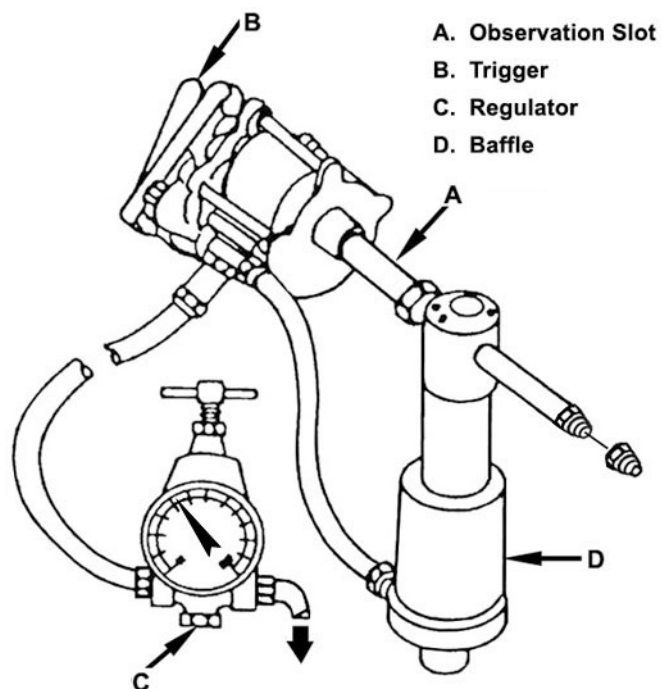
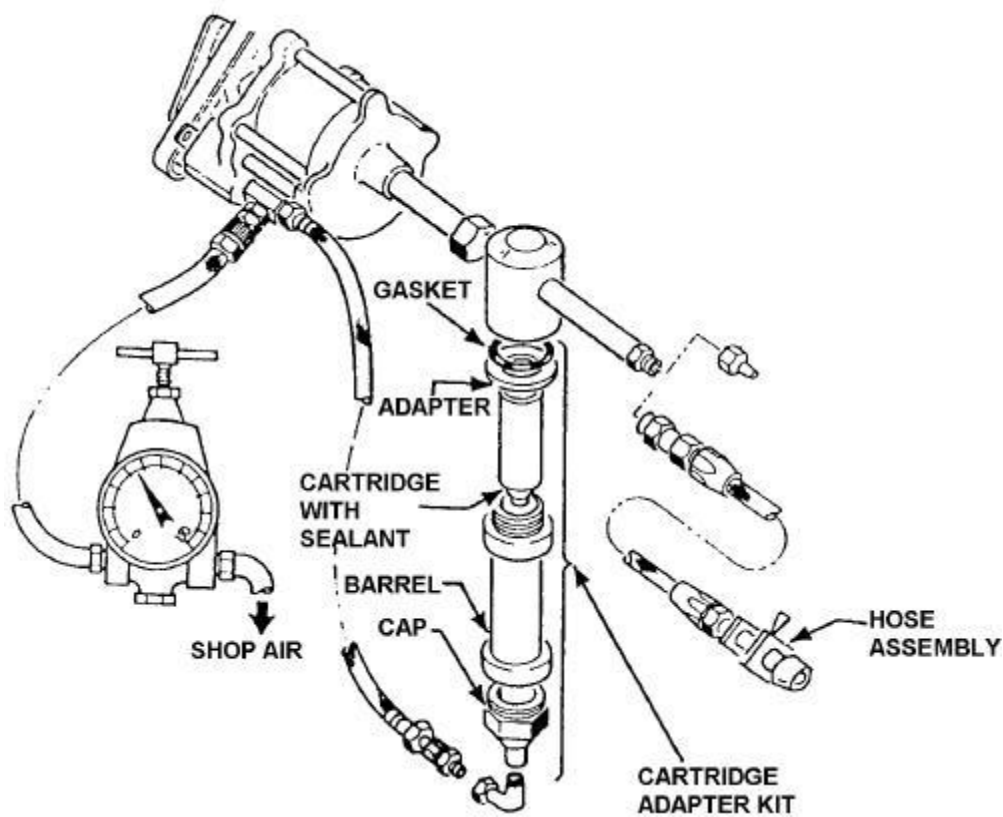

Figure 2-16. Injection gun (noncuring sealant).
Figure 2-17. Cartridge adapter kit.
This type high-pressure sealant injection gun injects one-part sealant into channels under the wing skin. Figure 2-16 shows one model of the gun. You fill the gun with sealant by removing the baffle (D) from the gun assembly and packing one-part concurring sealant into the barrel with a spatula. It is important to keep trapped air to a minimum and prevent foreign matter from getting into the sealant. Adjust the regulator (C) to the correct pressure for proper operation of the gun. The air pressure applied at the baffle assembly moves the sealant into the path of piston travel. Depress the trigger (B) to move the piston forward. Piston movement can be noted by observing the stop in the slot (A) of the gun. Releasing the trigger returns the piston to its original position. This can be seen by the position of the piston stop. The barrel assembly can be replaced with the cartridge adapter kit (fig. 2-17). This permits you to use prefilled cartridges and eliminates the entrapment of air and foreign matter in the sealant. Using this kit saves time because you do not need to hand-pack sealant into the baffle.